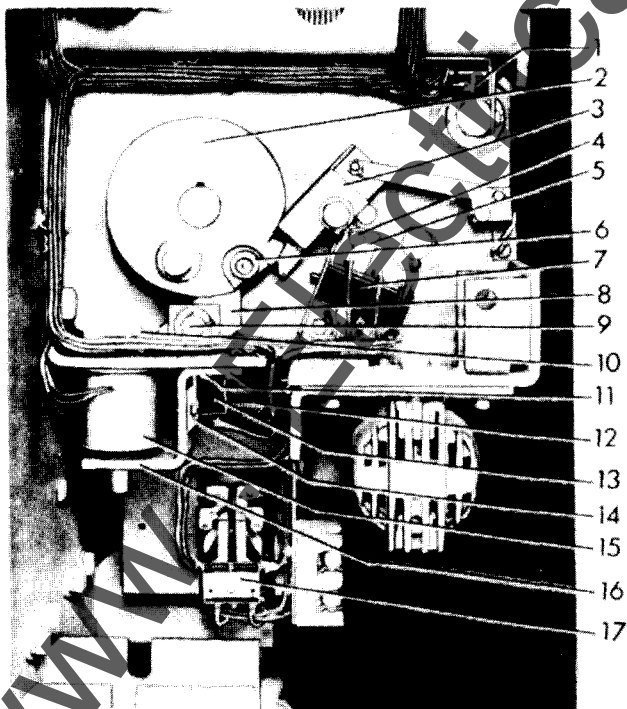

FIGURE 8 (8034467) MECHANISM
The mechanism has a high speed gear motor that compresses a closing spring through the action of an eccentric, pawl and ratchet assembly. The rotary action of the motor (6) Figure 6 is converted to a straight stroke pumping action through the eccentric (4) Figure 5 that carries a spring loaded driving pawl (3). The pawl advances the ratchet wheel (1) Figure 5 only a few degrees each stroke where it is held in position by the latching pawl (2). When the ratchet wheel has been rotated approximately 180 degrees, the closing spring will be fully compressed. As the ratchet wheel continues to rotate, the spring load will shift over center and attempt to discharge. After only a few degrees of rotation, the closing roller (6) Figure 8 will engage the closing latch (8) and the compressed spring will be held in repose until a closing operation is required. During the last few degrees of the ratchet wheel rotation, the motor and relay switches (7) Figure 8 are released and the driving pawl is on a smooth portion of the ratchet wheel. This allows the motor and driving mechanism to coast to a natural stop expending all residual energy.
Closing the breaker is accomplished by energizing the closing coil or by pressing the manual close button. In either case, the closing latch rotates to release the energy of the closing spring which powers the cam (7) Figure 9 that closes the breaker through a simple linkage that remains trip-free at all times. A monitoring switch (13) Figure 8 and power switch (7) control the operation of the spring charging motor.
Refer to Figure 8. The wipe between the release latch (8) and roller (6) should be .187" to .250". If re-setting is required, loosen, set, and retighten adjustment nut and screw (10), and refer to paragraph 5.10